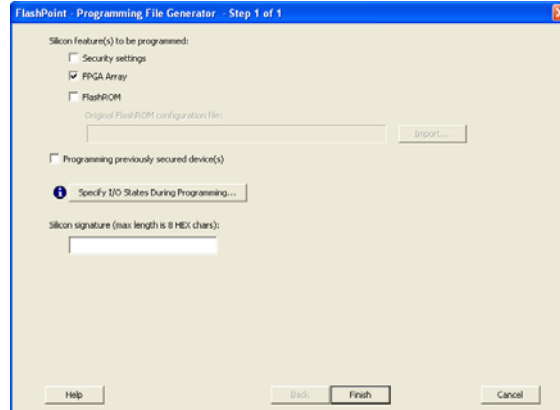

Figure 1-46 • FlashPoint Programming File Generator Dialog Box
2. Click **Programming File** to open the FlashPoint Programming File Generator (Figure 1-46).